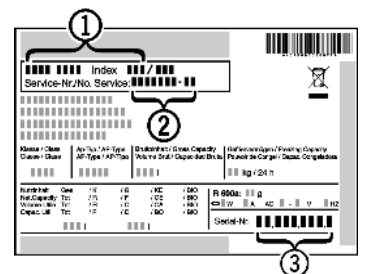

Fig. 25
- ▶ Read the appliance designation *Fig. 25 (1)*, service No. *Fig. 25 (2)* and serial No. *Fig. 25 (3)* off the type plate located inside the appliance on the left-hand side.
- ▶ Notify the customer service, specifying the fault, appliance designation *Fig. 25 (1)*, service No. *Fig. 25 (2)* and serial No. *Fig. 25 (3)*.